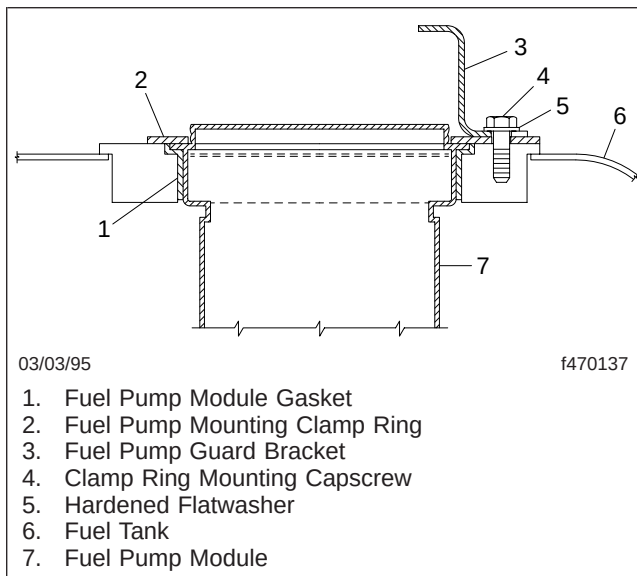

Fig. 5, Fuel Pump Module (cutaway view)
- 6.5 Remove the fuel pump module gasket from the fuel tank (see Fig. 5) and discard the old gasket.